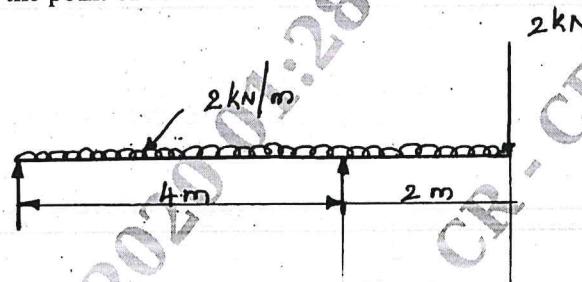

Fig Q5(b)
b. Draw the shear force and bending moment diagrams for overhanging beam carrying uniformly distributed load of 2 kN/m over the entire length and a point load of 2 kN as shown in Fig Q5(b). Locate the point of contra flexure.